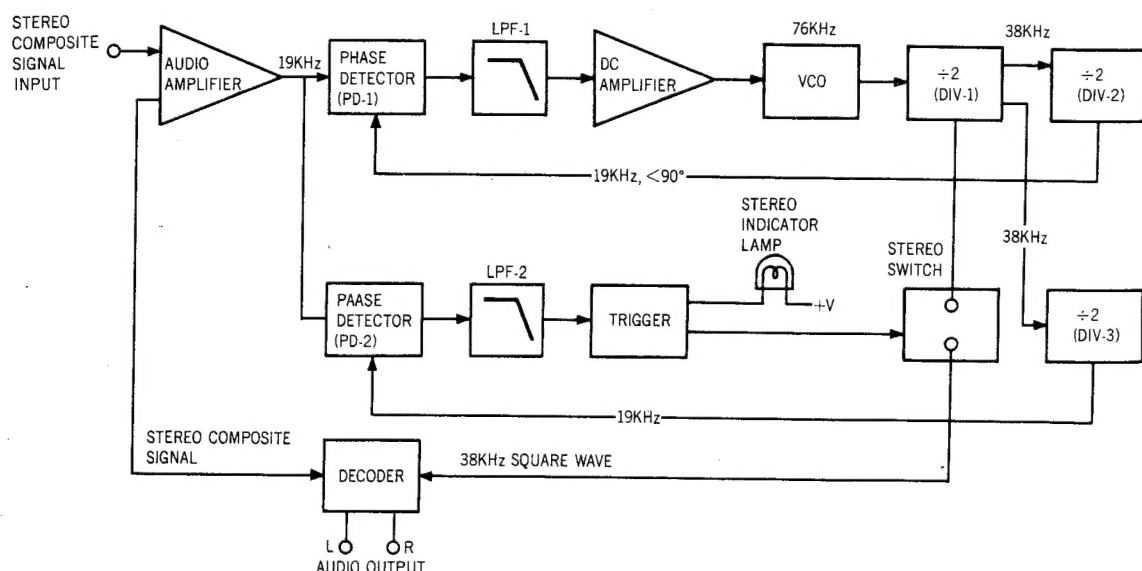

Figure 1. Block Diagram of the HA1156
The stereo composite signal from the buffer amplifier undergoes a phase compensation by R301 and C301, is applied through the muting switching FET H301 to the input terminal pin ②, of the MPX stereo decoding IC H321 on a PLL (Phase Locked Loop) basis, and decoded into the left and right stereo signals, which become available at pins ④ and ⑤ respectively. These decoded left and right stereo audio signals are introduced through a low pass filter composed of L301 to L304 and C311 to C320 for elimination of undesirable residual switching signal and through a de-emphasis network consisting of R325, R326, C321 and C322, into the npn-pnp direct coupled audio amplifier, where the signals are amplified to a required level for the output from J311 and J313. From these jacks, the audio signals are further led through the function switch and OUTPUT LEVEL control R005 into the output amplifiers H401 and H402, where the signals are amplified to be fed to the output terminals. Figure 1 presents an internal block diagram showing the functions of the PLL basis MPX stereo decoding IC HA1156. The input stereo composite signal, amplified by the audio amplifier, is delivered to the phase detectors PD-1 and PD-2. A part of the stereo composite signal is also applied to the stereo decoder section. The VCO (Voltage Control Oscillator) produces a free run oscillation in the neighborhood of 76KHz with the time constant determined by a capacitor C305 and resistors R311 and R312 set on the outside of pin ⑭. The VCO output has its frequency divided into 19KHz through the two stages of the frequency divider (DIV-1 & DIV-2), and is reverted to the phase detector PD-1, which contains two input terminals designed to produce an output in proportion to the product of the two input signals. The signal applied to one of the inputs of PD-1 is the 19KHz square wave formed through frequency division of the 76KHz VCO output signal by the two stages of the frequency divider DIV-1 and DIV-2, and the 19KHz pilot signal included in the stereo composite signal as a reference signal is applied to the other input. Therefore, the output of PD-1 which has passed through the low pass filter LPF-1 provides DC output voltage in proportion to the phase variance between the two inputs. This DC output voltage is amplified by the DC amplifier, and supplied to the 76KHz VCO as a control voltage. This means that the output frequency and phase of the VCO have been phase-locked to the input pilot signal. The 38KHz sub-carrier reproduced by PLL as stated above is delivered through the stereo switch to the stereo decoder section as a switching signal, thus driving the decoder section. One of the inputs of PD-2 is given the 19KHz resulting from the frequency division completed by DIV-1 and